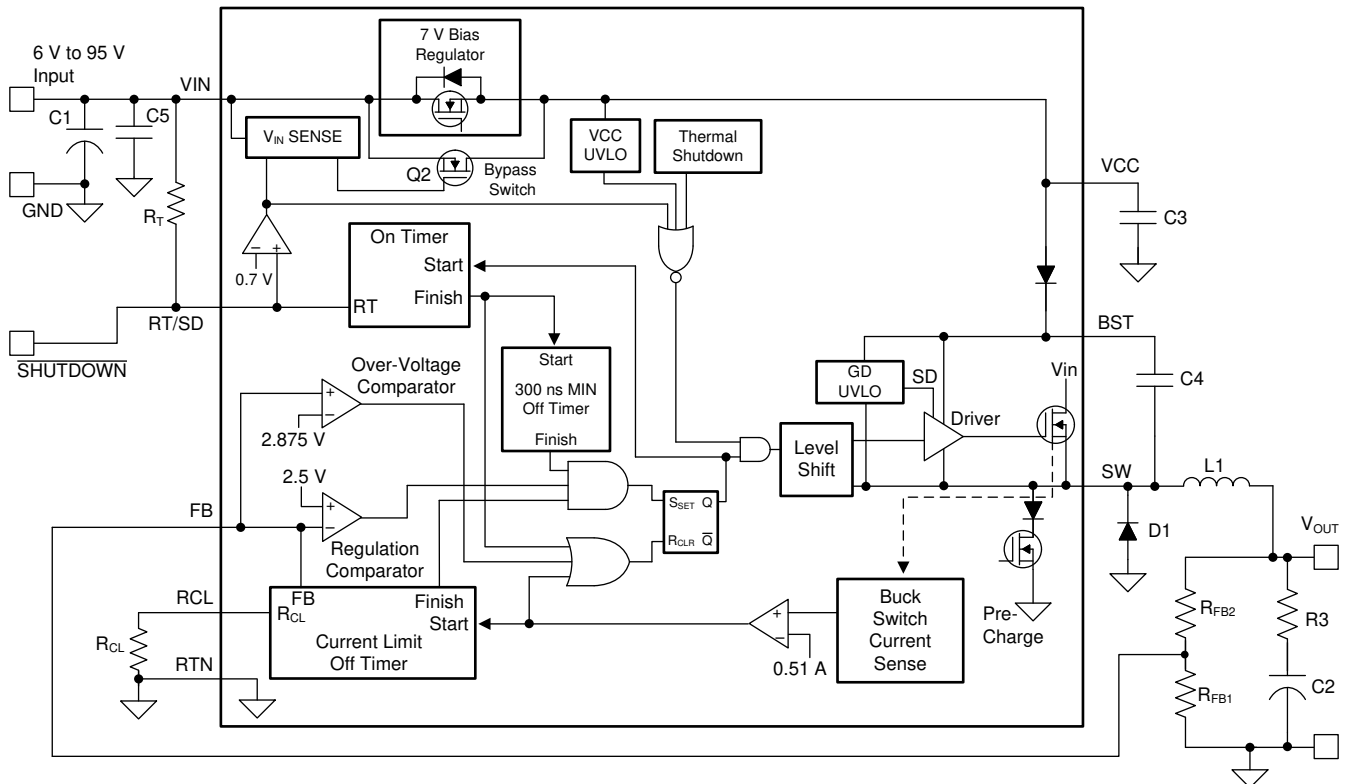

Figure 8-37. Functional Block Diagram
The output voltage (V_{OUT}) is programmed by two external resistors as shown in Figure 8-37. The regulation point can be calculated with Equation 7.
The LM5008A regulates the output voltage based on ripple voltage at the feedback input, requiring a minimum amount of ESR for the output capacitor C2. A minimum of 25 mV to 50 mV of ripple voltage at the feedback pin (FB) is required for the LM5008A. In cases where the capacitor ESR is too small, additional series resistance may be required (R3 in the Figure 8-37).
The high voltage bias regulator is integrated within the LM5008A. The input pin (V_{IN}) can be connected directly to line voltages between 6 V and 95 V, with transient capability to 100 V. Referring to the Figure 8-37, when V_{IN} is between 6 V and the bypass threshold (nominally 8.5 V), the bypass switch (Q2) is on, and V_{CC} tracks V_{IN} within 100 mV to 150 mV. The bypass switch on-resistance is approximately 100 Ω , with inherent current limiting at approximately 100 mA. When V_{IN} is above the bypass threshold Q2 is turned off, and V_{CC} is regulated at 7 V. The V_{CC} regulator output current is limited at approximately 9.2 mA. When the LM5008A is shut down using the RT/SD pin, the V_{CC} bypass switch is shut off regardless of the voltage at V_{IN} .